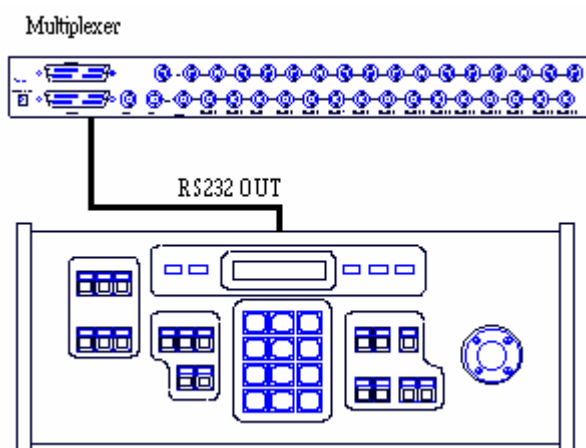

Figure7
4. The keyboard controls the Multiplexer directly(Figure7)